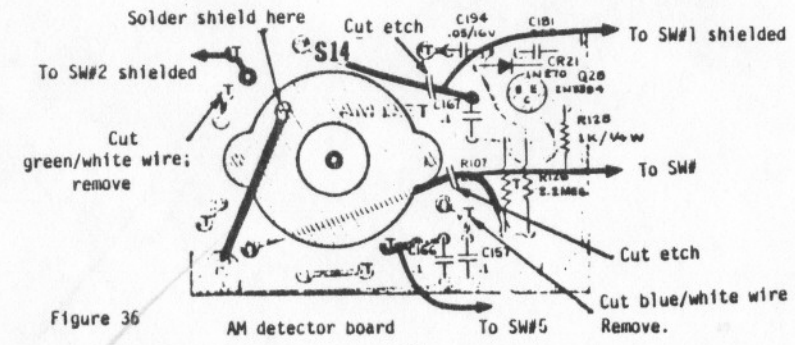

Figure 36
8. Cut etch on AM DETECTOR BOARD and connect wire (hook-up) from etch to terminal 4 on switch. (see figure 36)
12. Run shielded wire from terminal 1 on switch to etch on AM DETECTOR BOARD. Cut etch. (See figure 36)